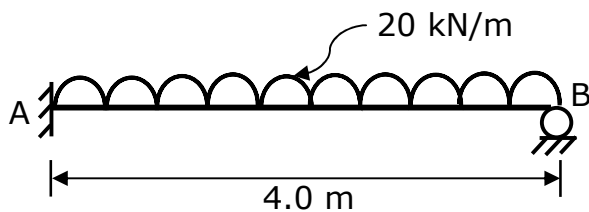

Fig. 1
- Q-2.** (a) Analyse the propped cantilever beam shown in fig. 1 using consistent deformation method and draw shear force and bending moment diagram. **07**